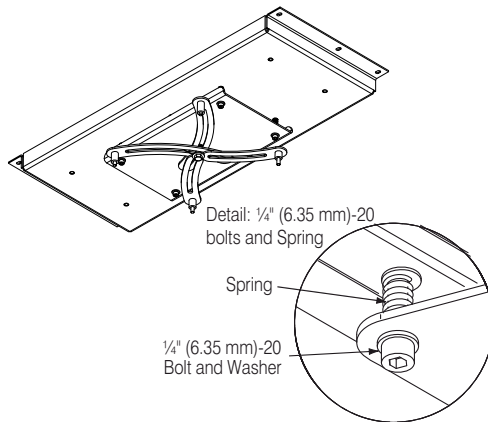

Figure 4
5. Use the $\frac{1}{4}$ " (6.35 mm)-20 bolts and springs which hold the rectangular plate to the bottom pan to adjust roll and tilt (the springs will ensure that the projector is held still during motion). The centre $\frac{5}{16}$ " (8 mm) bolt provides Yaw adjustment (see Fig. 4).